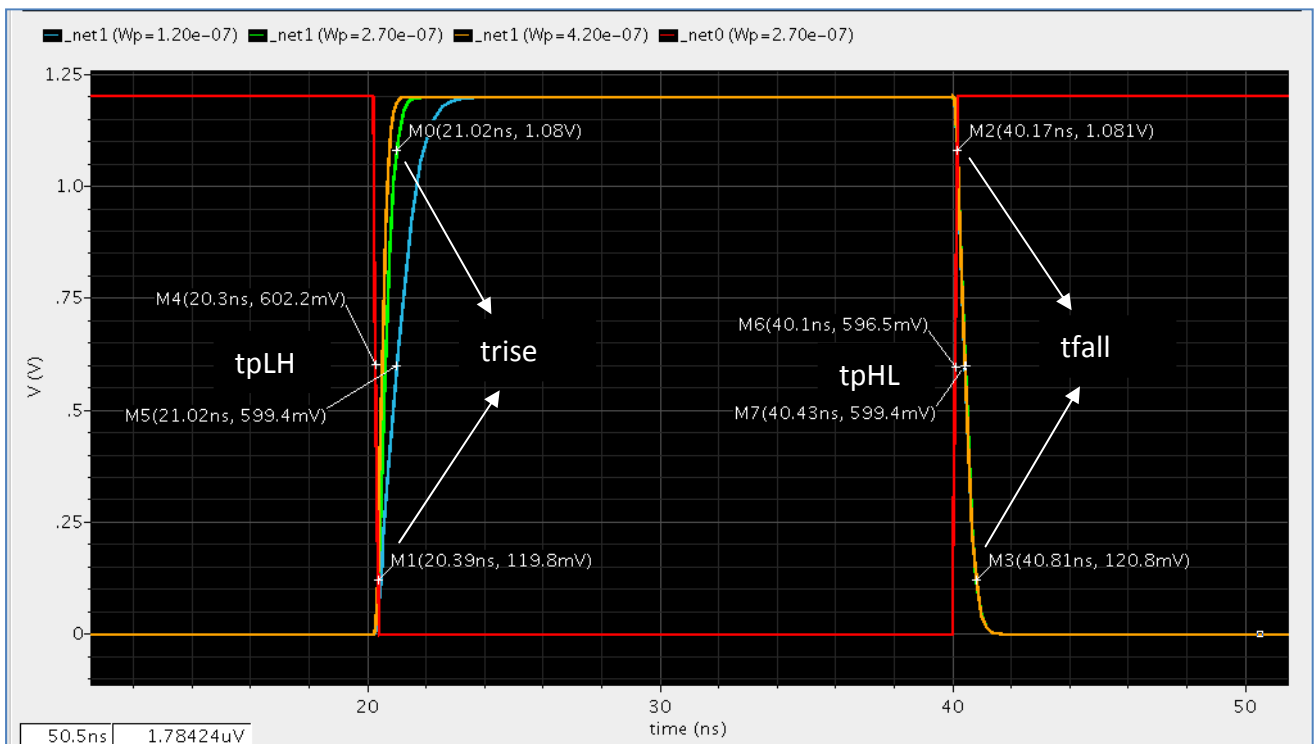

Figure Lab3-6 : CAP = 0.04p, $W_p = 120n$ to 420n
6. From the waveforms obtained in Figure Lab3-6 (or from Table 1), determine which W_p results in approximately the same t_{pLH} and t_{pHL} .